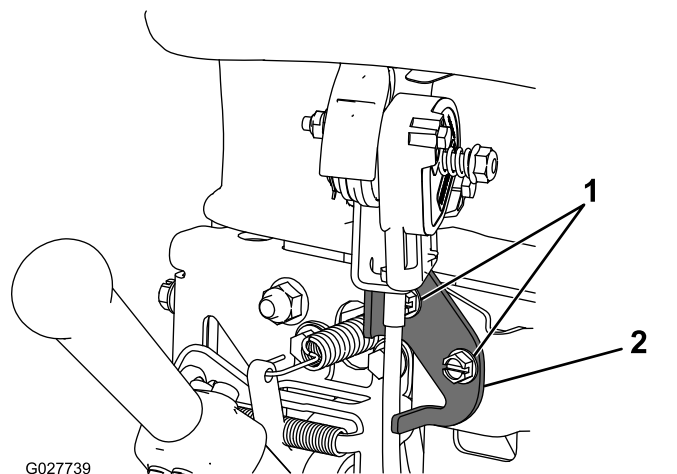

Figure 33
2. Loosen the 2 fasteners securing the throttle control (Figure 33).